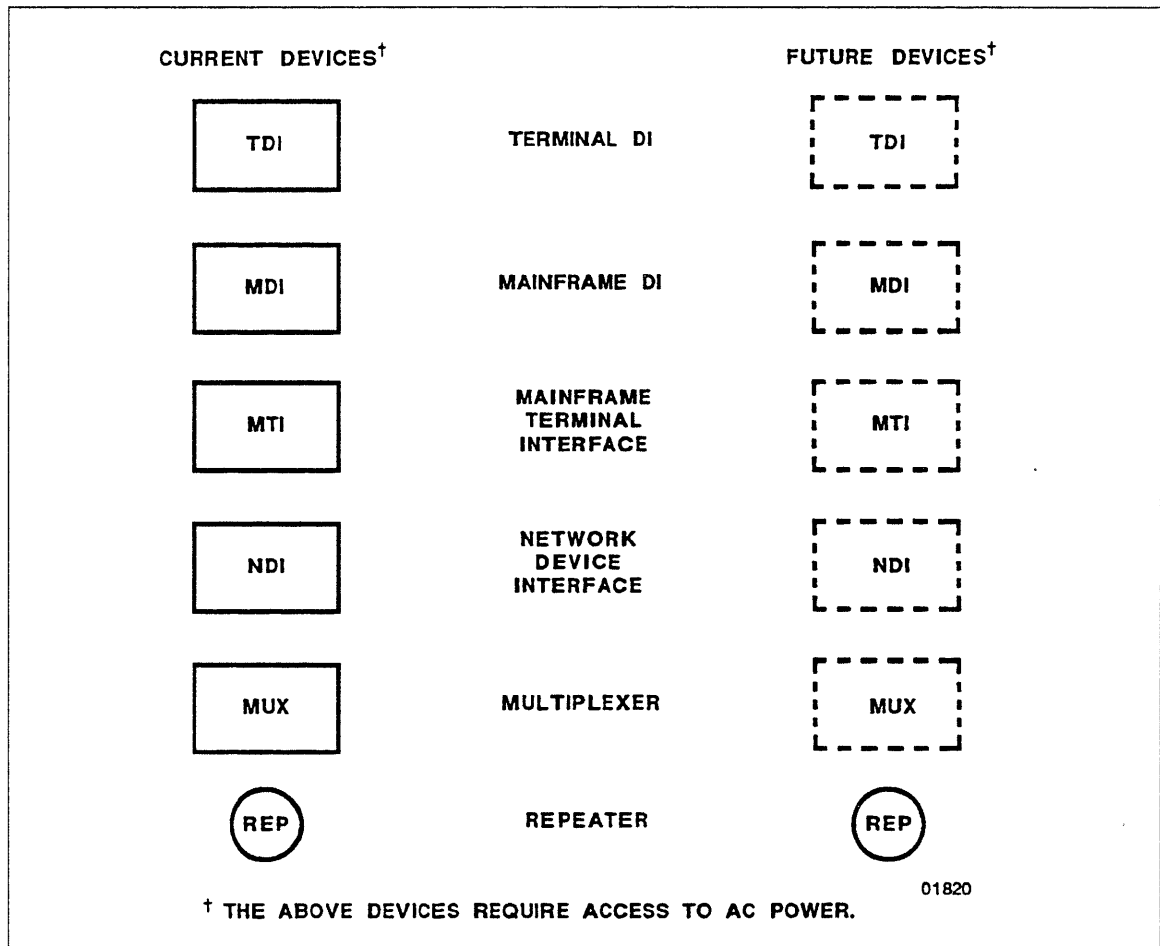

Figure 1-16. Device Symbols/Abbreviations
3. Show all network equipment locations on the floor plan. For cable layout planning purposes, you should also indicate where you may add things in the future. Figure 1-16 shows device symbols and abbreviations. Number each equipment label with its own unique identification number and show this number on the floor plan.